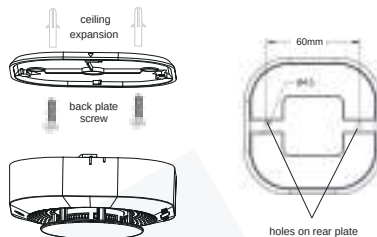

Figure 1
- Aligning the 2 holes on the rear plate, and drill 2 holes on the ceiling, with 60mm in between. Then screw the rear plate onto the ceiling with the provided anchors and screws (refer to Figure 1).